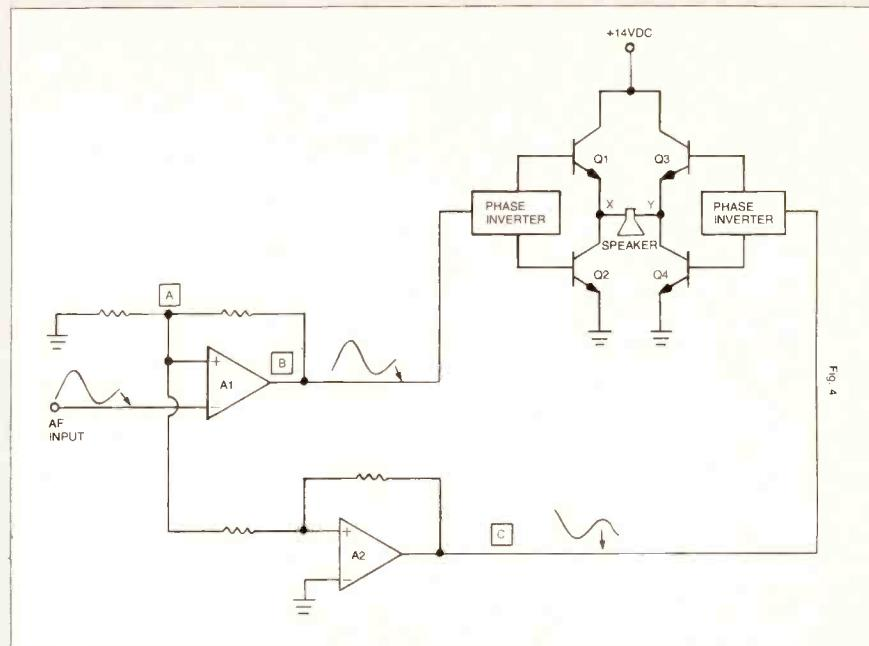

Fig. 4 A typical bridge configuration amplifier.
Some new car radios, notably the Delco models, have a little tag on the chassis that says "DO NOT GROUND LOUDSPEAKERS." Why not? After all, aren't car radio loudspeakers normally grounded? In the past, single-ended and push-pull audio amplifiers used a speaker system in which one side was grounded. This makes sense in a car radio because we can then use the car chassis as the return for the speaker system. But, in making sense economically, it also limited the bandwidth in many models. The output transformer sapped frequency response. When transformerless outputs came along, they too had a single-ended output configuration. But now we are seeing something called bridge audio. What is bridge audio? See Fig. 4.
Figure 4 shows the block diagram for a bridge audio power amplifier stage. Transistors Q1 through Q4 are power amplifiers, and are connected into a bridge circuit with the loudspeaker at the bridge output terminals. You will recognize Q1/Q2 and Q3/Q4 as the ordinary single-ended totem-pole output amplifier used for a number of years in auto radio. Ordinarily, the voltage at points X and Y is $\frac{1}{2}$ V_{cc}, which in this case would be $\frac{1}{2}$ (14), or 7V dc. When a signal is applied, the phase inverter section will turn one transistor of each pair on and the other off, depending